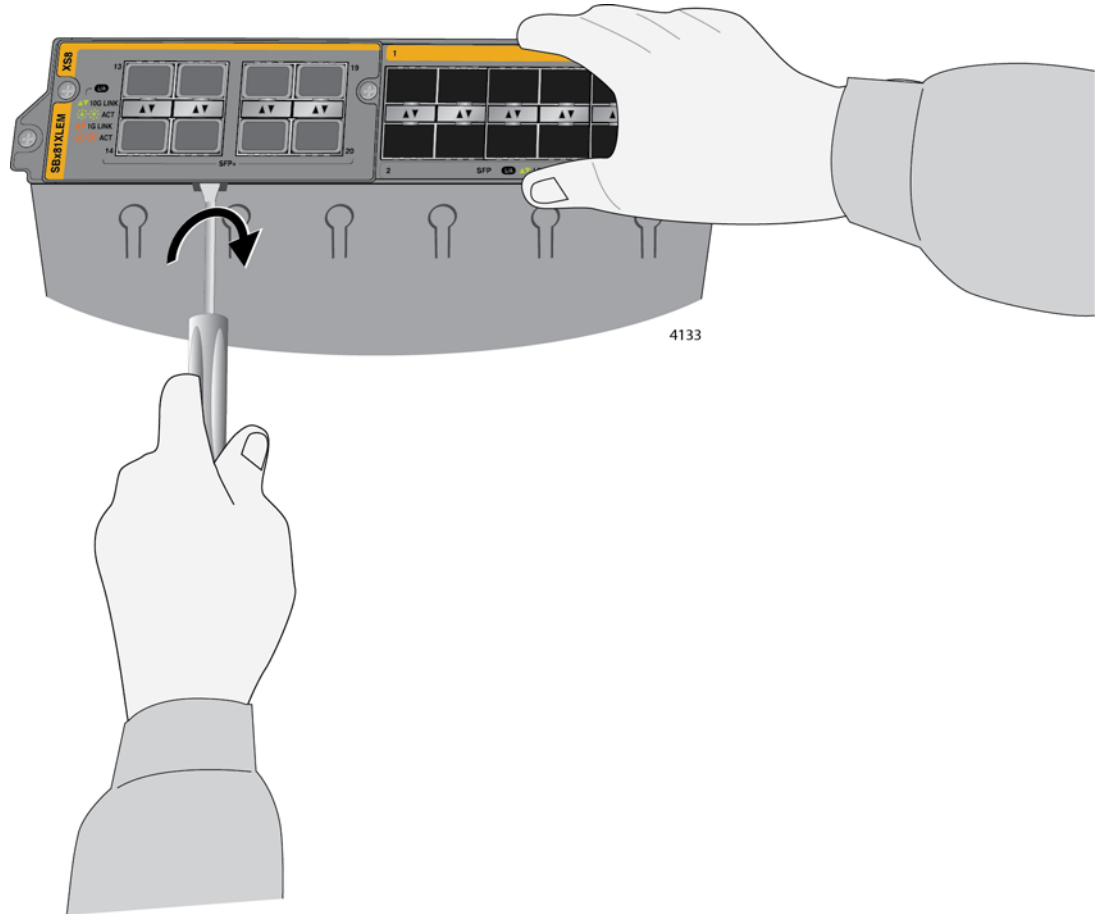

Figure 165. Disconnecting the Expansion Module from the AT-SBx81XLEM Line Card
5. Lift the front of the line card and carefully insert the tip of a flathead screwdriver into the slot on the bottom panel of the expansion module. Gently twist the screwdriver to disconnect the module from the connector in the line card. Refer to Figure 165.